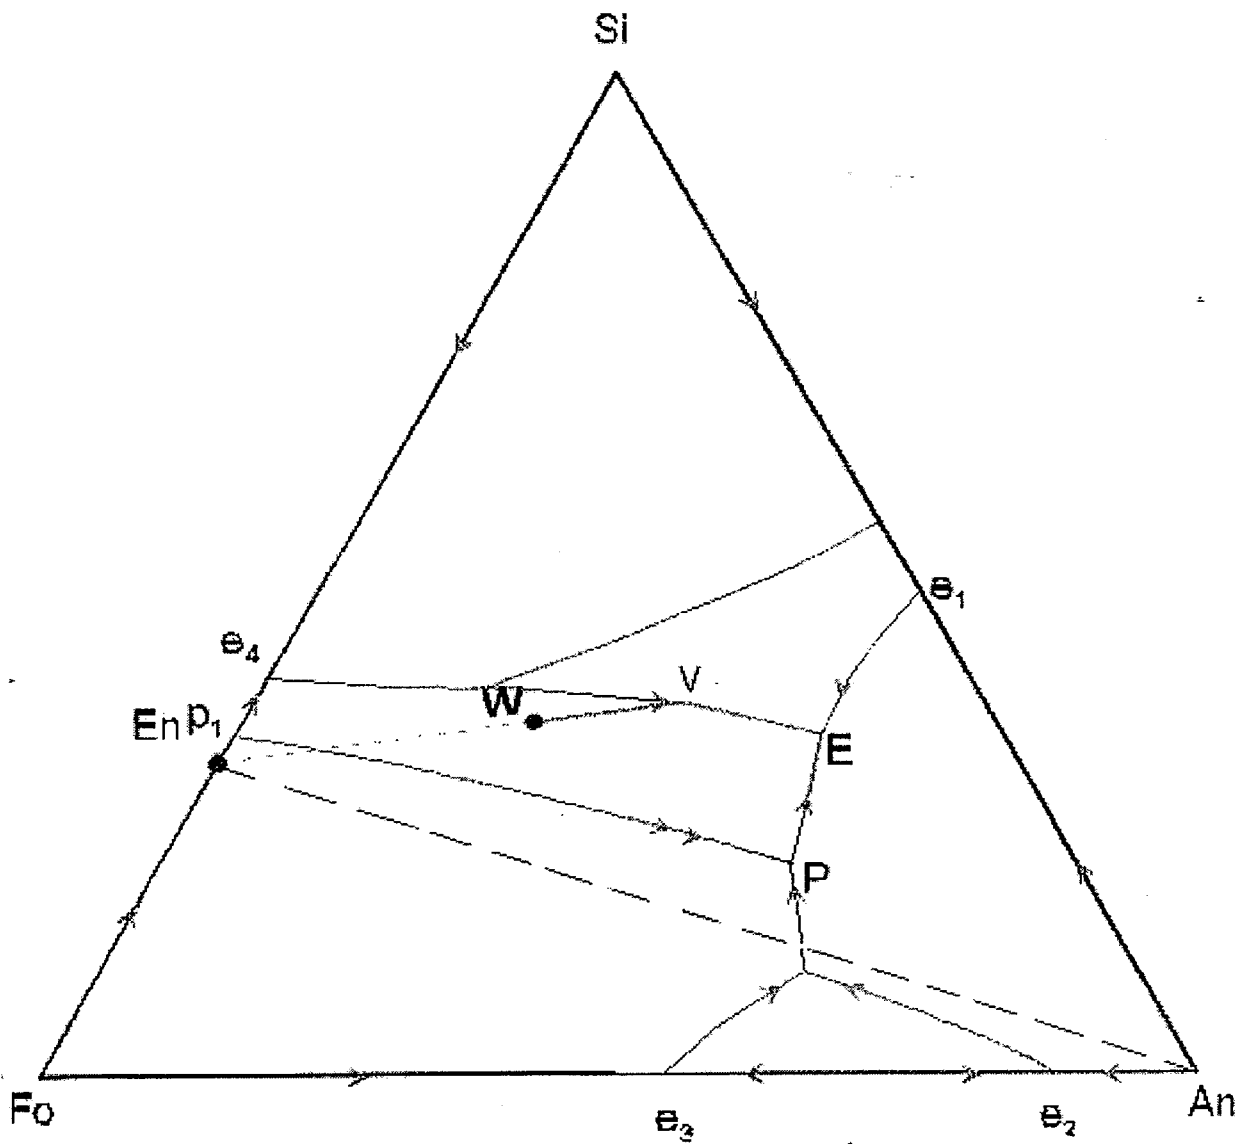

Figure 8
- [b] Figure 8 is a ternary system Forsterite-Anorthite-Silica phase diagram. What are the final solids and their proportions to form from composition W?